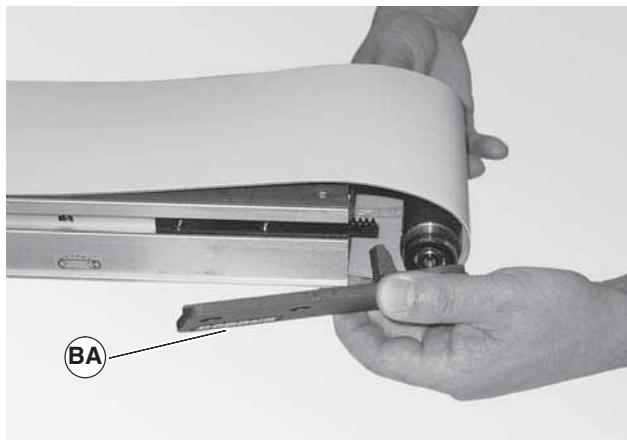

Figure 39
2. Place the head plate (Figure 39, item BA) and attach the head plate to the conveyor frame with the two (2) screws removed. Tighten screws 60 in-lb (7Nm).